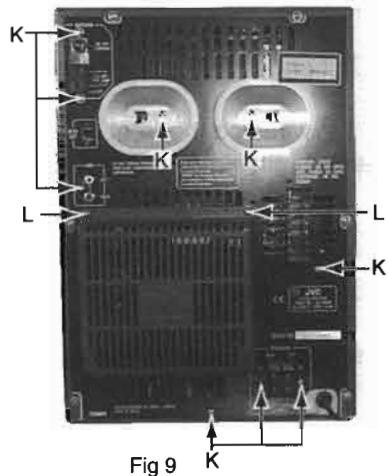

Fig 9
2. Remove nine screws K on rear panel and two screws L on rear cover. (See Fig.9)